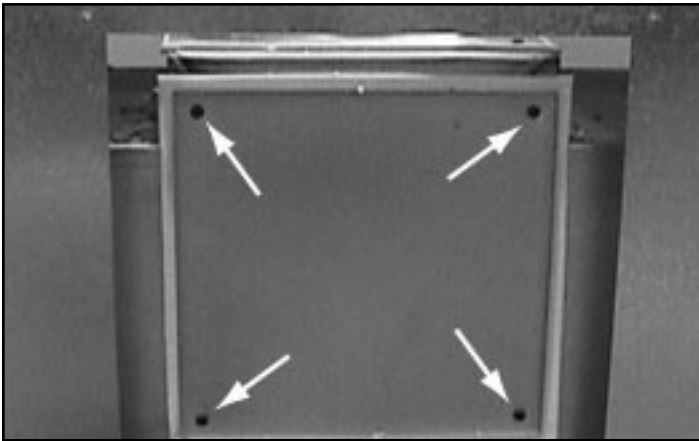

Figure 7.7 Outer Cover, Rear - Remove Plate
- Remove four screws holding outer cover plate to appliance back. See Figure 7.7. Remove outer cover.